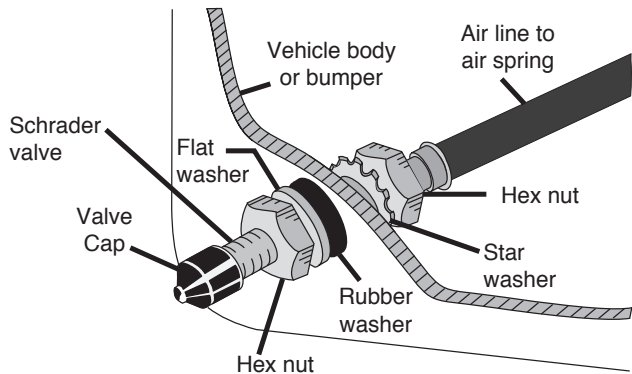

fig. 26
5. Push the inflation valve through the hole and use the rubber washer, flat washer and another 5/16" nut to secure it in place (Fig. 26). Tighten the nuts to secure the assembly.